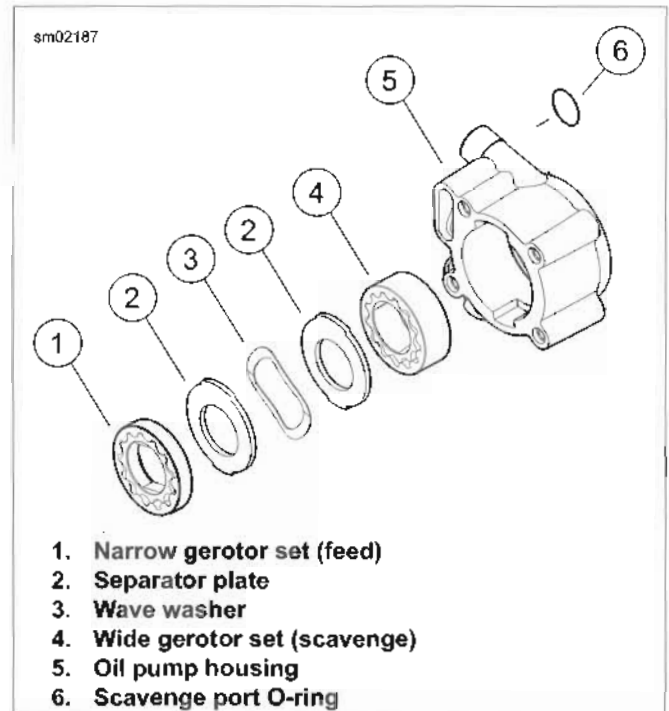

Figure 3-118. Assembling Oil Pump
5. See Figure 3-118. Disassemble and inspect oil pump components.
8. See Figure 3-118. Assemble the oil pump.
1. See Figure 3-118. Apply a very thin film of SCREAMIN' EAGLE ASSEMBLY LUBE to new scavenge port stub O-ring (6). Install O-ring on scavenge port stub of oil pump housing.
2. Slide oil pump housing (5) onto crankshaft while fitting O-ring on scavenge port stub into crankcase bore.
3. Assemble the wide gerotor set (4). Install on the crankshaft until it bottoms in the oil pump housing.
4. Install inside separator plate (2) on the crankshaft until it contacts the wide gerotor set (4). Install wave washer (3) and outside separator plate (2).
5. Assemble the narrow gerotor set (1). Install on the crankshaft until it contacts the outside separator plate (2).